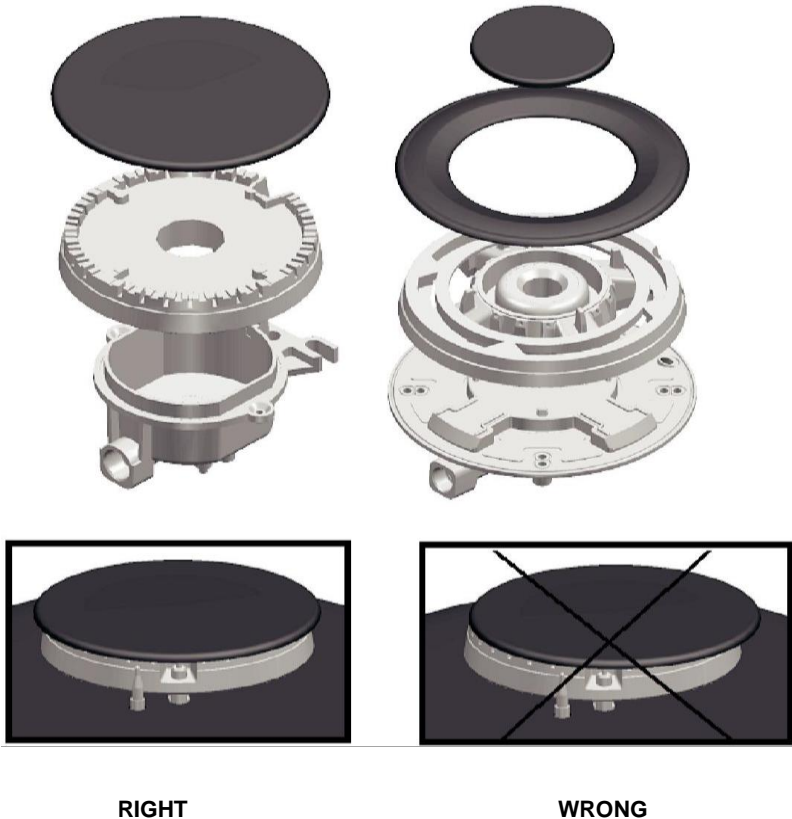

Figure 1.
- In order that the hob will operate properly the grills and burner components should be properly positioned.(Figure 1)